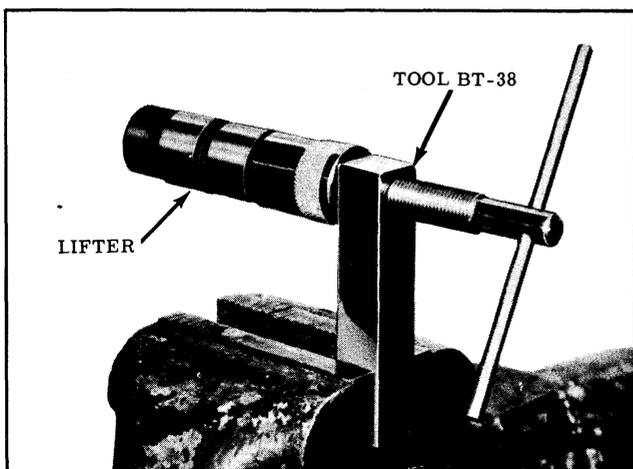

Fig. 8-13 Removing Plunger
4. Work plunger up and down with Tool BT-82. If plunger is stuck tight, allow lifter to soak in solvent for approximately 5 minutes, tapping on end of Tool BT-82 with a soft hammer if necessary. Tool BT-38 may be used if plunger does not fall out. (See Fig. 8-13)